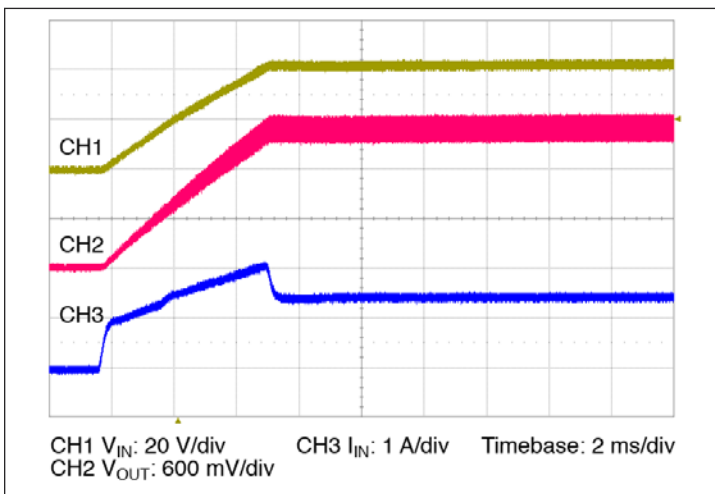

Figure 13 — Start up from application of  $V_{IN}$ ; VC pre-applied  $C_{OUT} = 0 \mu$ F
- Normal Operation (VC applied prior to VIN): In this case the controller is active prior to ramping the input. When the input voltage is applied, the VTM output voltage will track the input (See Figure 13). The inrush current is determined by the input voltage rate of rise and output capacitance. If the VC voltage is removed prior to the input reaching 26 V, the VTM module may shut down.